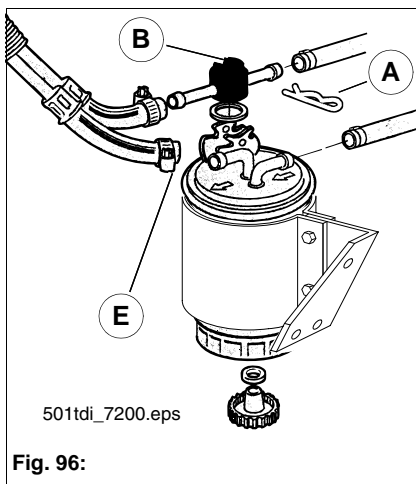

Fig. 96:
- ☞ Remove the drain plug (see figure 96)